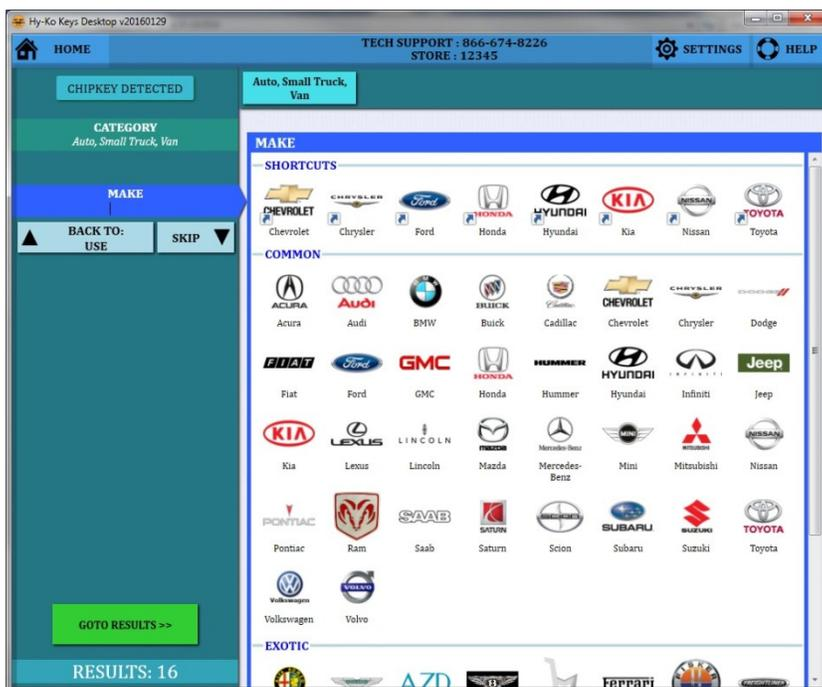

fig. 102
- Choose the Make by clicking on the appropriate manufacturer logo or by typing it in the 'MAKE' box on the left (see fig. 102).